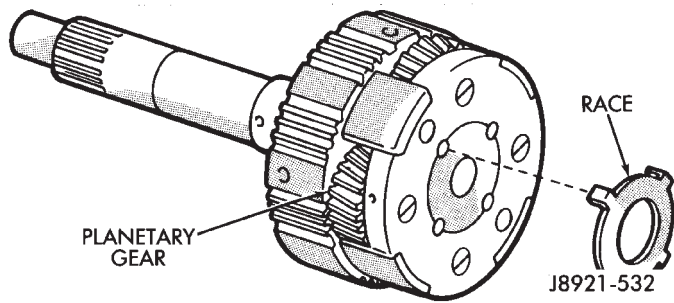

Fig. 204 Remove Planetary Gear Race
(17) Remove race from planetary gear (Fig. 204).